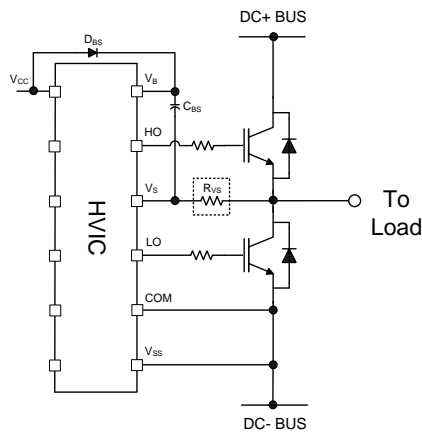
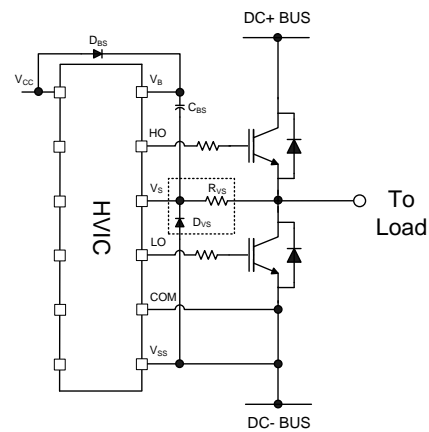

Figure 32: V_S resistor
Figure 33: V_S clamping diode
- **Routing and Placement:** Power stage PCB parasitic elements can contribute to large negative voltage transients at the switch node; it is recommended to limit the phase voltage negative transients. In order to avoid such conditions, it is recommended to 1) minimize the high-side emitter to low-side collector distance, and 2) minimize the low-side emitter to negative bus rail stray inductance. However, where negative V_S spikes remain excessive, further steps may be taken to reduce the spike. This includes placing a resistor (5 Ω or less) between the V_S pin and the switch node (see Figure 32), and in some cases using a clamping diode between COM and V_S (see Figure 33). See DT04-4 at www.infineon.com for more detailed information.